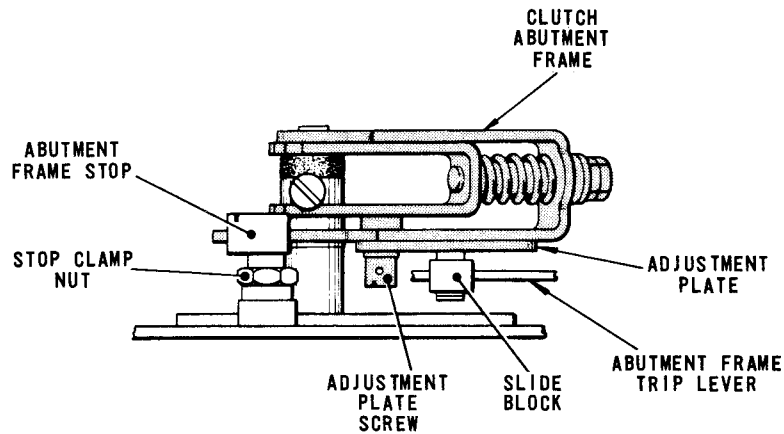

Fig. 4.3 TRANSLATOR CLUTCH ABUTMENT MECHANISM
- 4.3 To adjust, slacken the nut clamping the eccentric stop, Fig.4.3, and turn the stop for maximum depth of engagement between the abutment and the trigger. Insert a .025 in. gauge between the tail of the abutment frame and its eccentric stop,